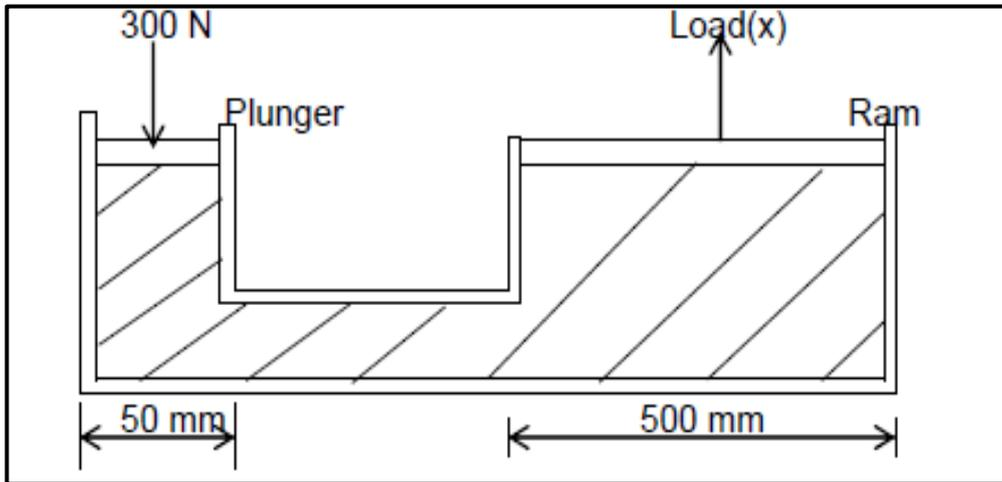

FIGURE 11.2
- 11.2 A hydraulic system is used to lift a machine. A force of 300N is exerted on the 50 mm diameter plunger of a hydraulic jack. The diameter of the ram is 500 mm as shown in FIGURE 11.2 below.